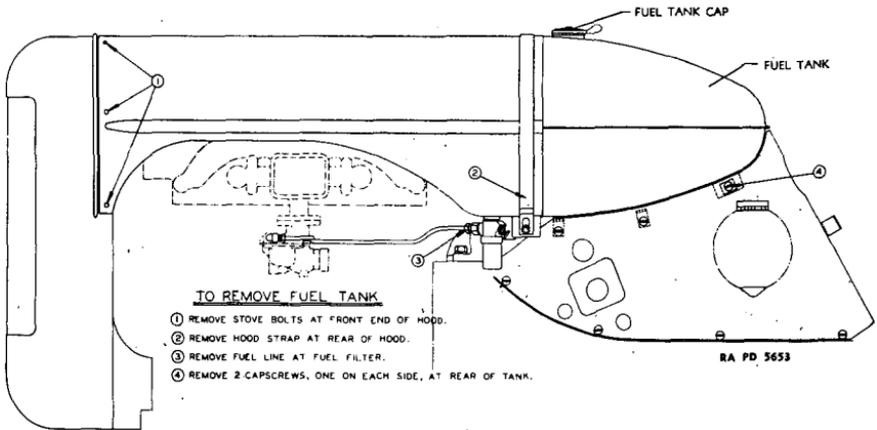
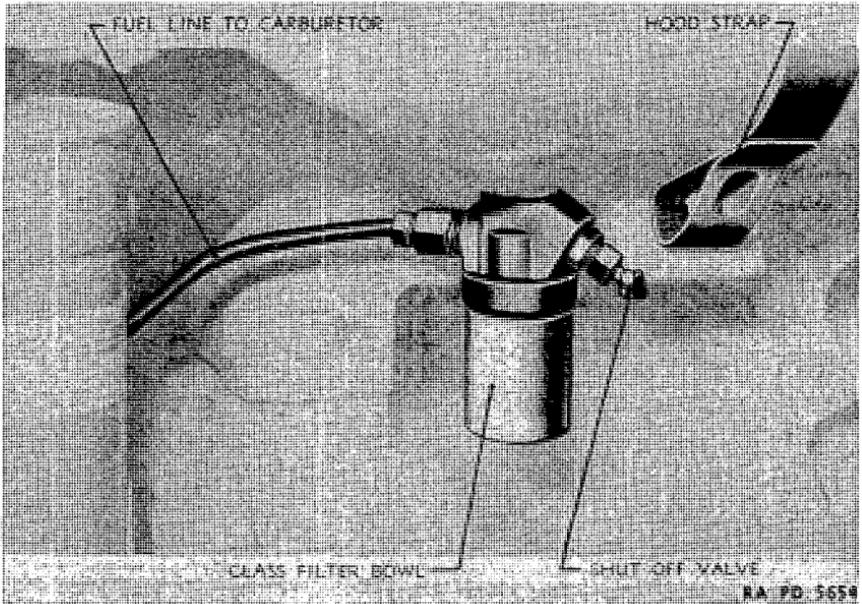

FIGURE 15.—Removal of fuel tank.
FIGURE 16.—Fuel strainer.
*c. Replacement.*—Fuel tanks will be replaced when excessive rust is present or when leaks develop. To remove the fuel tanks, proceed as follows (see fig. 15) :
- (1) Remove stove bolts at front end of hood.
- (2) Remove hood strap at rear of hood.
- (3) Remove fuel line at fuel filter and drain tank.
- (4) Remove two cap screws, one on each side at the rear of the tank.
- (5) To replace, proceed in the reverse order of removal.
**45. Fuel strainer.**—*a. Description.*—A fuel filter (fig. 16) is located at the bottom of the fuel tank connected between the fuel tank and the carburetor. The fuel filter should be inspected daily and cleaned when necessary.